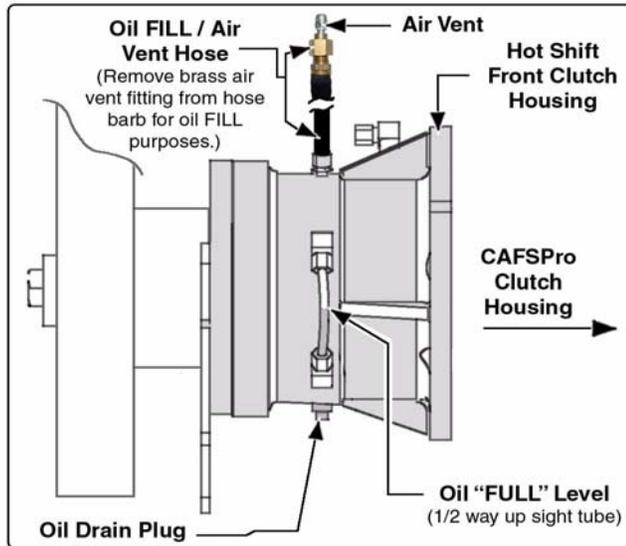

Figure 7-7: Hot Shift Oil Sight Tube
(See Figure 7-7: 'Hot Shift Oil Sight Tube' on page 60.)
1. Place a suitable container 12 to 14 ounces under the hot shift front clutch housing and remove the brass drain plug. (See Figure 7-7: 'Hot Shift Oil Sight Tube' on page 60.)
3. Remove the brass fitting, containing the air vent, from the fill tube hose barb. (See Figure 7-7: 'Hot Shift Oil Sight Tube.')
4. Using a squeeze bottle or funnel, refill the housing via the hose bar fitting and fill hose with Dexron III or Mercon ATF or equal, **while watching the oil level sight gauge**. The housing holds approximately twelve (12) ounces (0.4 liters).